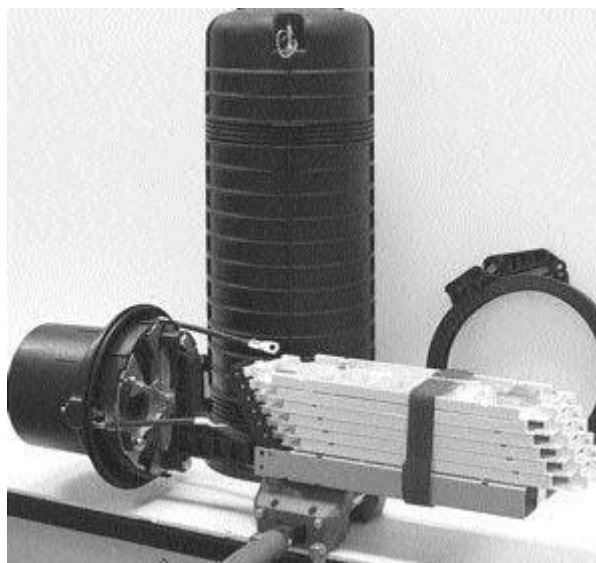

Figure 1 – Tyco FOSC 450 Splice Closure
3.1 A Tyco FOSC 450 splice closure is shown in Figure 1. The following components are included in the closure kit.